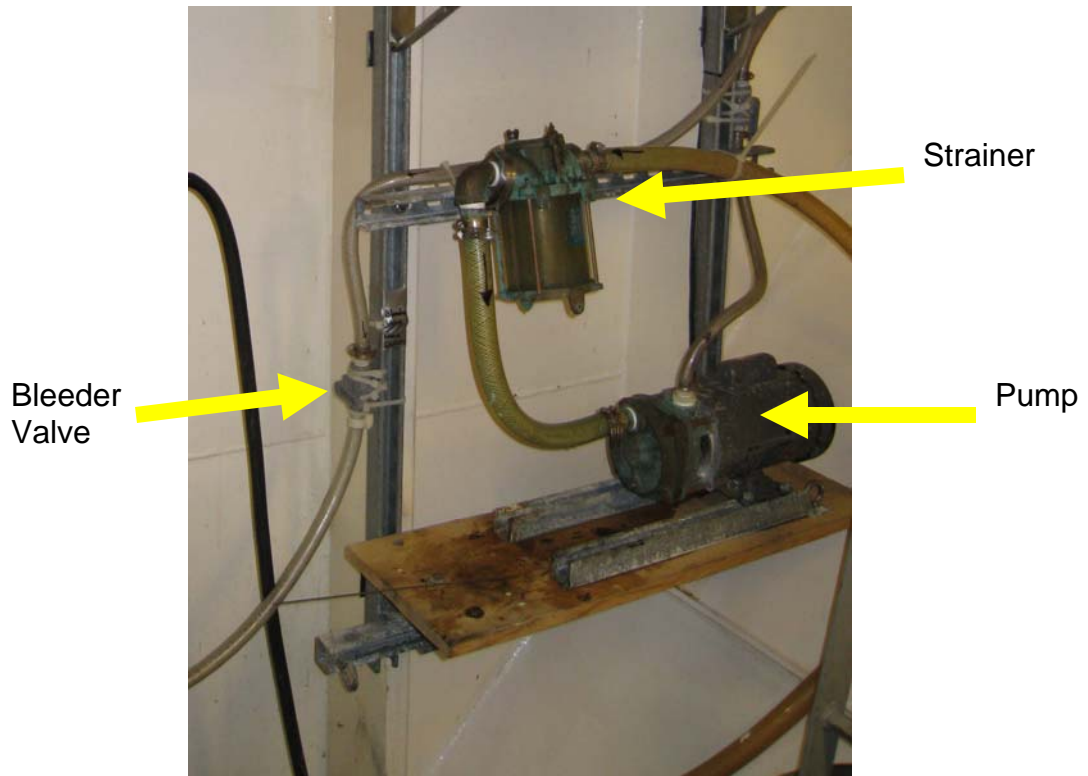

Figure 6. Strainer and bleeder valve
3. Check for air in the system. If air is visible the system may need to be bled. The bleeder valve is located the left of the strainer. The bleeder valve outlet should flow into the bucket (Fig. 6).
3. Close the PVC ball valve just behind the strainer (Fig. 6).